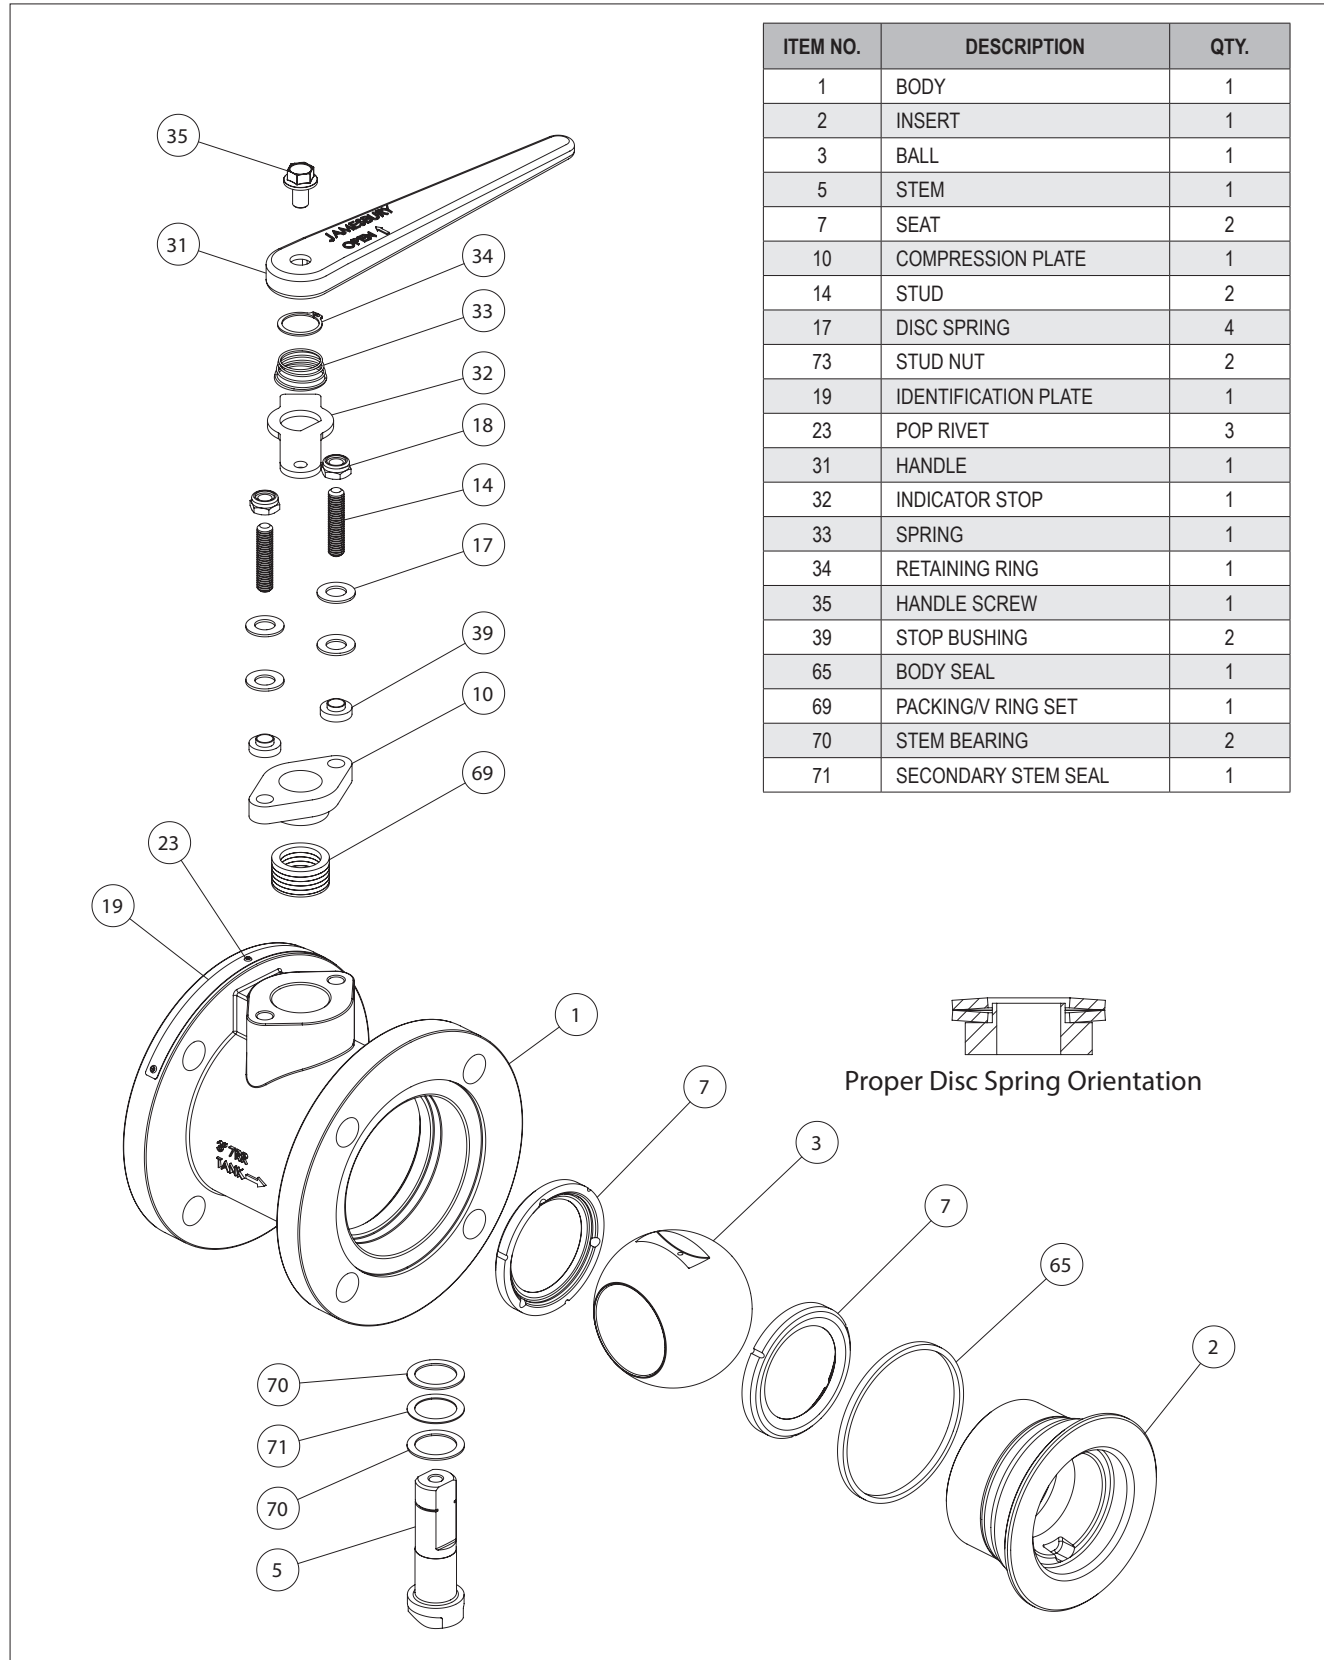

Figure 9.
2. Check the stem (5) and ball (3) for damage. Pay particular attention to the sealing areas.
3. Check all sealing and gasket surfaces of the body (1) and insert (2).
- c. From **Figure 9**, the ballooned part number, part name and quantity required.
7. Holding the stem in place from the inside, install the packing v-ring set (69) and the compression plate (10) over the end of the stem protruding out of the body stem bore and over the studs (14) the as shown in **Figure 9**.
8. Install the indicator stop (32) so the flat on the internal diameter of the indicator stop matches with the flat on the stem (5), and the long end towards the insert end of the body as shown in **Figure 9**. Install the spring (33) over the stem (5) with the large diameter of the spring touching the indicator stop (5). Install retaining ring (34) over stem (5) locating the retaining ring in the groove in the stem and compressing the spring.